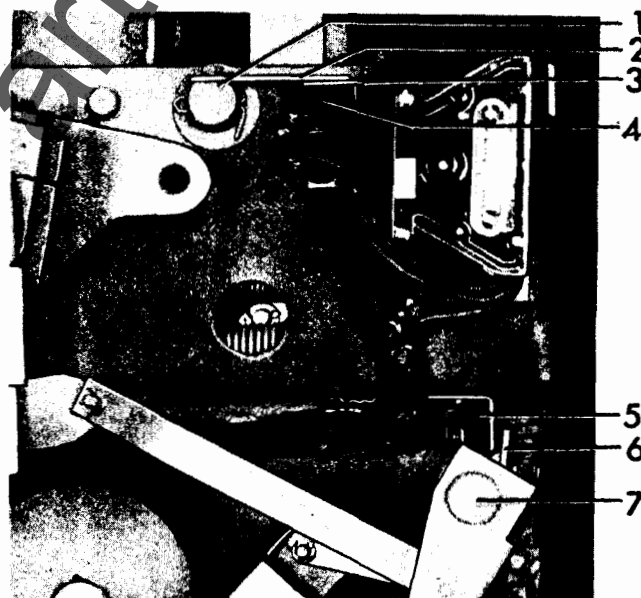

Figure 12. (8040933) Positive Interlock Switch
Refer to Figure 12. With the positive interlock in the reset, or normal position the clearance between the interlock switch arm (2) and the switch mounting plate (3) should be 1/32" or less. This can be adjusted by bending the switch arm.